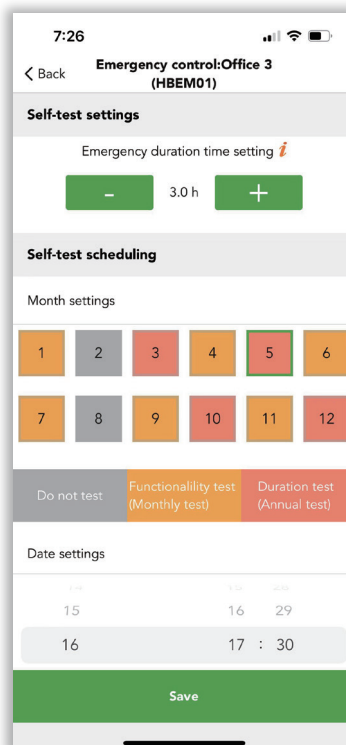

Figure 16.3 Self-test settings
4. Self-test scheduling which Koolmesh app will list out the schedule by month, user can set every month according to real application for “Do not test”, “Functionality (Monthly test)” and “Duration test (Annual test)”, see figure 16.3. Different function has different color, like “Do not test” is grey; “Functionality (Monthly test)” is orange; “Duration test (Annual test)” is red. If user would like the first month do not test, then user can click Month 1 and then click “Do not test”, then the first month will turn to grey color and will not do the test. User can select a certain date and hours to self-test, like date 16th 17:30.